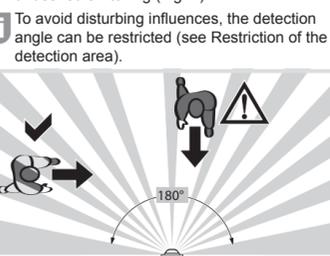

Figure 6: Motion orientation and detection
- Observe the motion orientation: a distinction is made between "direct approach" and "transverse motion". Motions transverse to the motion detector can be detected better than motions toward the motion detector (Fig. 6).